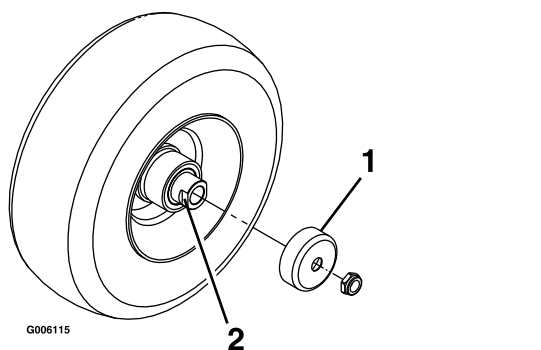

Figure 35
4. Remove the seal guards from the wheel hub (Figure 35).